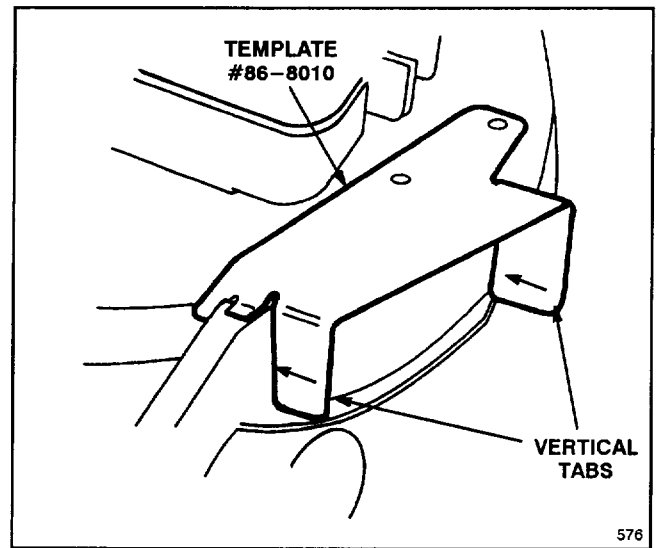

Figure 8
3. Position template #86-8010 so that vertical tabs are flush with outside of mower deck as shown in Figure 8. Mark holes with metal punch and remove template.